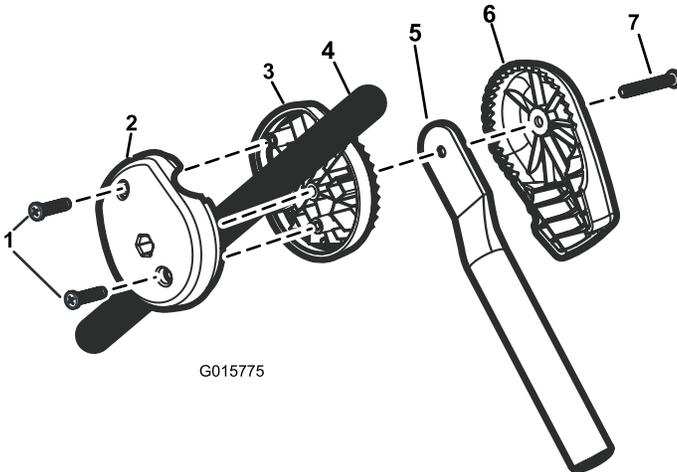
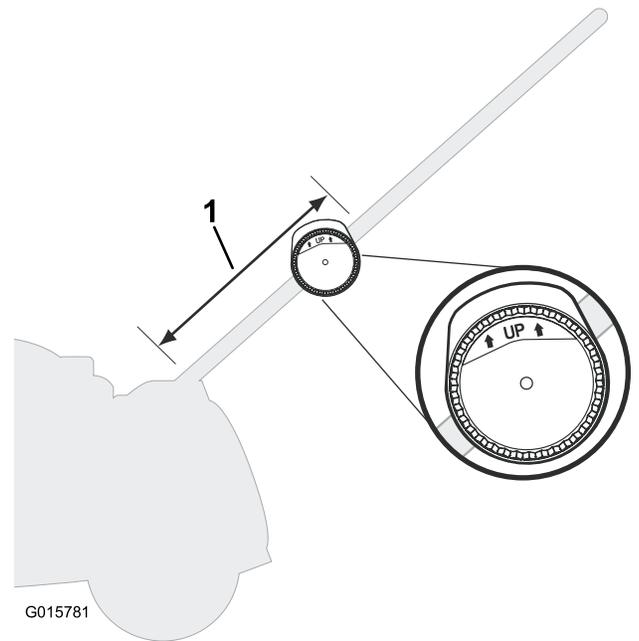

Figure 1
Figure 2
1. Within the lower third of the handlebar, place the inner clamp on the inside of handlebar (Figure 1).
2. Place outer clamp on the outside of handlebar, with the word **Up** facing upward (Figure 2), and connect the two clamps to the handlebar using 2 phillips screws (Figure 1).
3. Set the vertical tube into the angle adjuster. Make sure that the top portion of the vertical tube rests **flat** on the inner portion of the angle adjuster (Figure 1).
4. Use the pan head screw to attach the vertical tube and angle adjuster to the clamp assembly as shown in Figure 1.